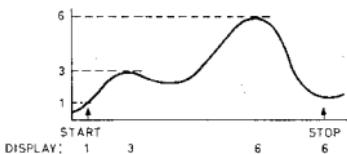

Fig. 19. V^+ measurement in MAN or EXT START mode.
- External or manual starting and stopping of a measurement (fig. 19).